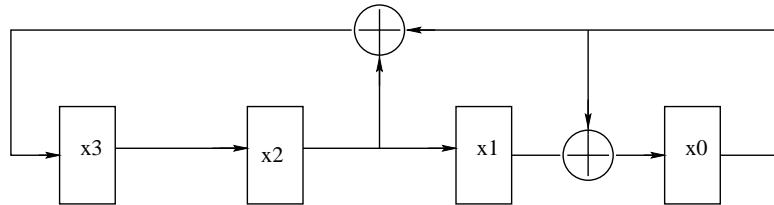

Figure 5: A mixed mode linear feedback shift register
- (a) **(4 points)** Realization of a 4-bit mixed mode (internal/external EOR Linear Feedback Shift Register (LFSR) is given in the Figure 5 below along with the notation to be used to label the flip-flops.